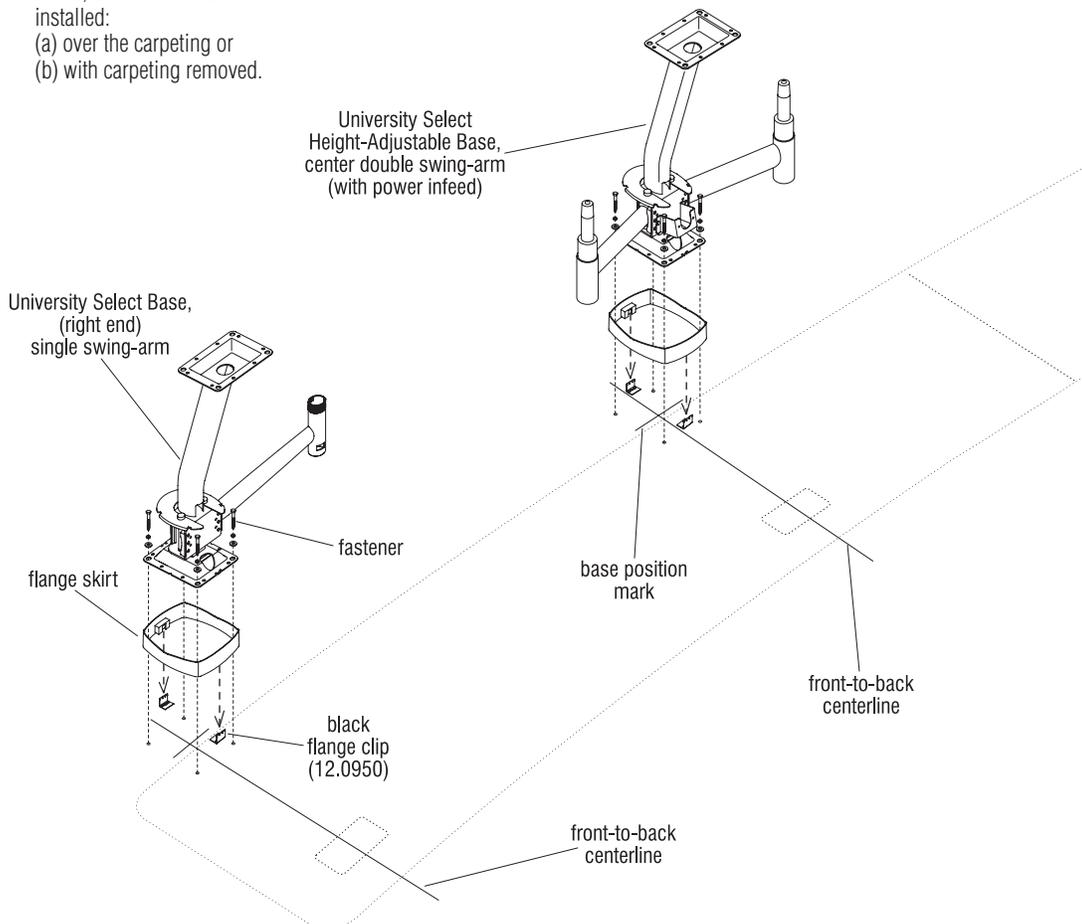

Figure 2
4. Identify which type of bases are to be installed (single or double swing-arm, and/or power infeed) along with their location according to the space-planning layout. Set the bases out at the appropriate locations. Carefully move the worksurfaces forward to make room for installation of the bases to the floor (Figure 2).
b. Position the base onto the floor over the front-to-back centerline and base position mark where the base will be installed. With the base correctly centered over the marks and lined up with the front-to-back centerline, mark around the perimeter of the base for removal of the carpeting. Cut and remove the carpeting. Carefully align the base flange onto the floor as described above and mark the anchor hole locations onto the floor (Figure 2). Read the note below and go onto step 6.
6. Bore anchor holes to minimum 1/4" x 2 3/4" hole depth for concrete floors, or 9/32" for wood floor, with flat and locking washers (not included). As illustrated, before base is attached to floor, place a flange skirt over the bottom of the base and lift it out of the way for the time being. Align the base over the pre-drilled holes and drive in (do not tighten) mounting screws (not provided). **Shim under base flange with steel washer(s) as needed to level or compensate for floor variances. See shim instructions (KI-62058) included with shim kit (Figure 2).**
8. After all bases are located and adjusted with shims, tighten base flanges to the floor. Snap flange skirts onto flange clips at each base-to-floor location. **Make sure that skirts are centered around the 6" x 8" floor flange and fit snug to the floor (Figure 2).**